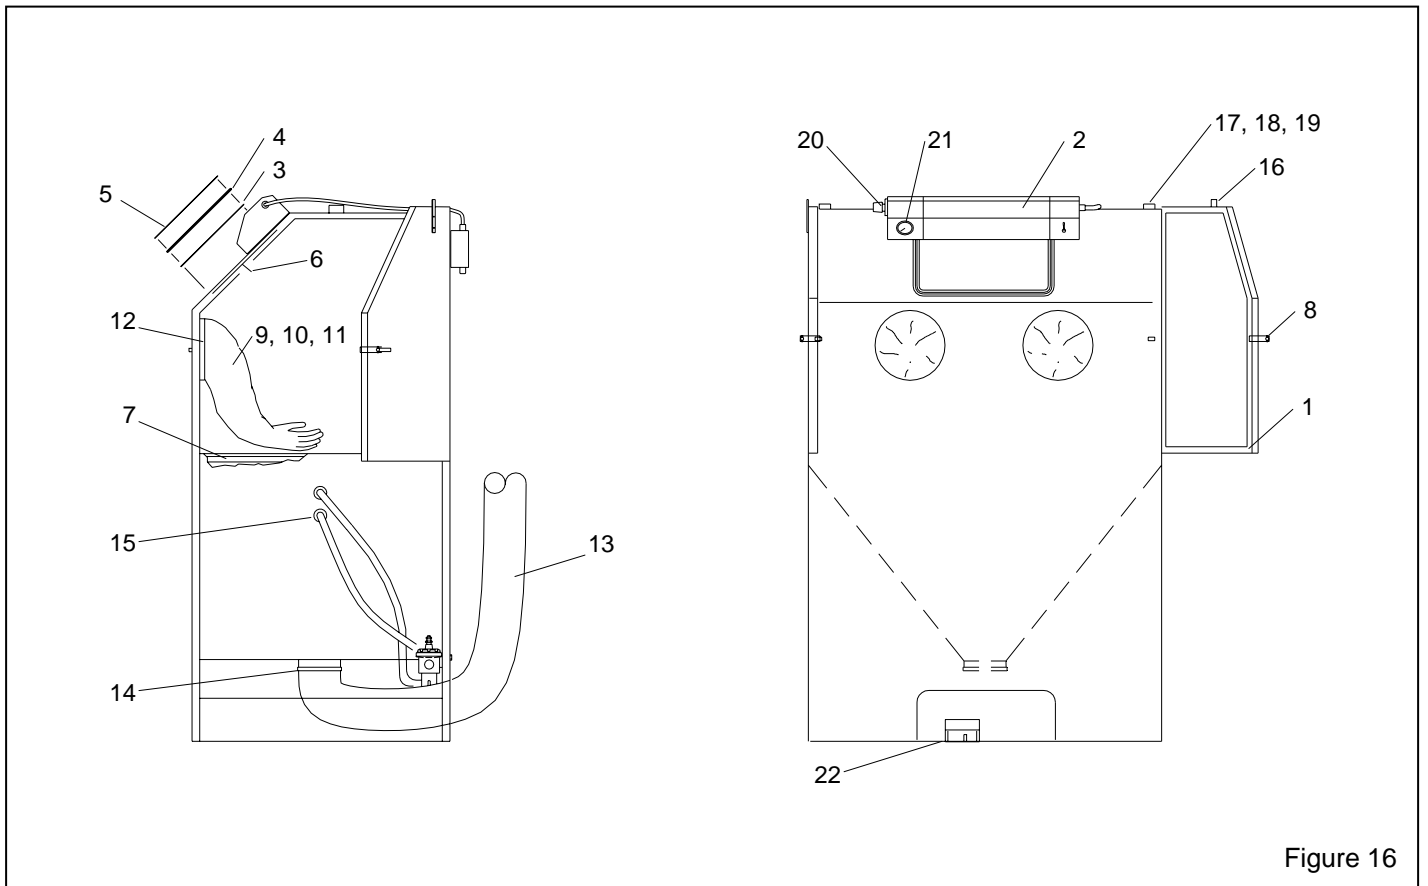

Figure 16
8.2 Cabinet Replacement Parts, Figure 16